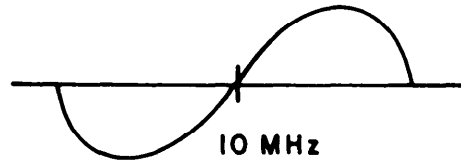

Figure 5-5. Typical Response, FM Discriminator Output
- c) Adjust C12 and C17 for a typical "S" curve response (centered at 10 MHz). A typical response is shown in Figure 5-5.